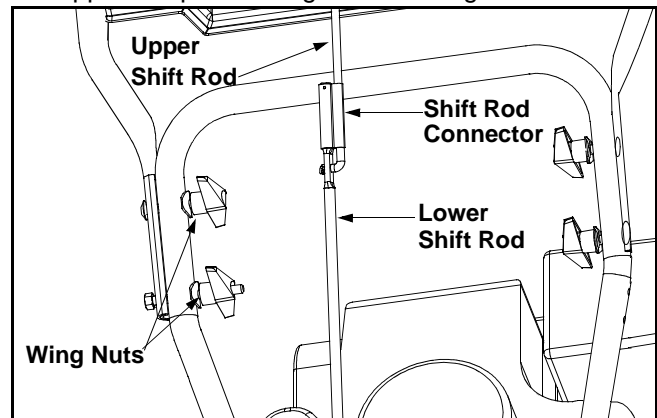

Figure 3
- Secure the upper handle and lower handle with the two plastic wing knobs, cupped washers and carriage bolts previously removed and tighten the upper two plastic wing nuts. See Figure 3.
- Slide the shift rod connector down over the end of the lower shift rod. Tap the connector until it **locks** on the lower shift rod. See Figure 3.